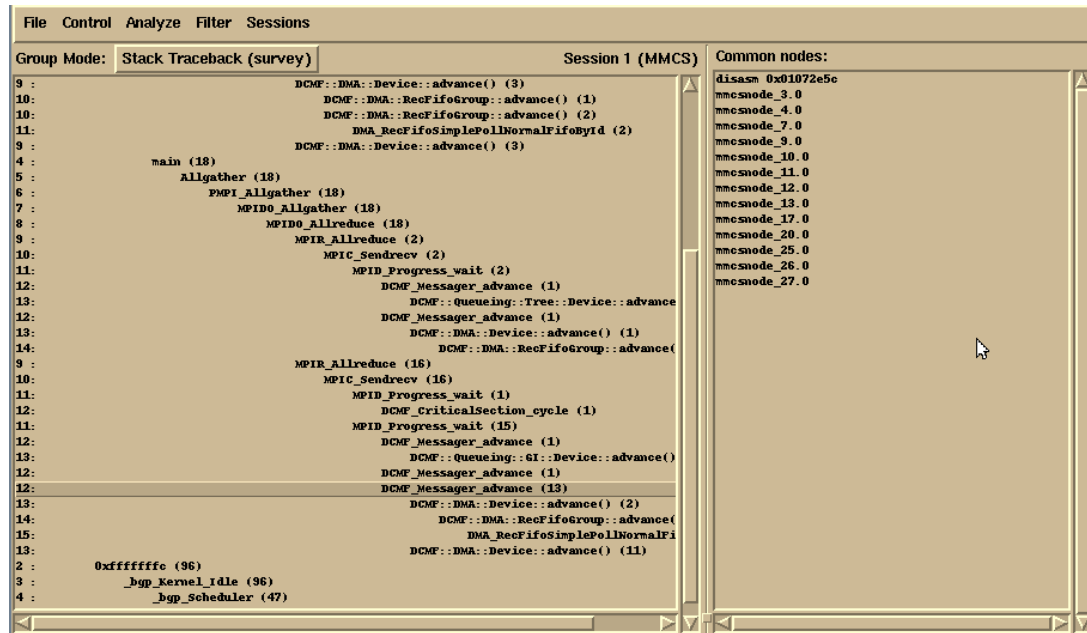

Figure 10-7 Stack Traceback common nodes
- ▶ If you click any line in the stack dump, the upper-right pane (labeled Common nodes) shows the list of nodes that share that stack frame. See Figure 10-7.